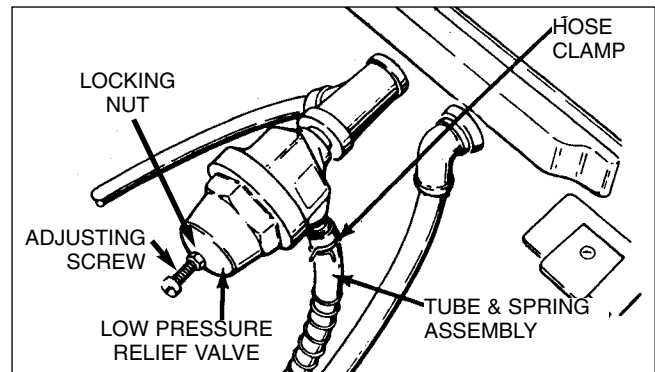

FIGURE 1-27, Bypass
- Check for proper flow of filtered coolant to reservoir by slowly raising free end of Tube and Spring Assembly (*see Figure 1-27*). Since Flow control manifold has been turned off, full flow of filtered coolant from filter unit is being returned to reservoir through Tube and Spring Assembly.